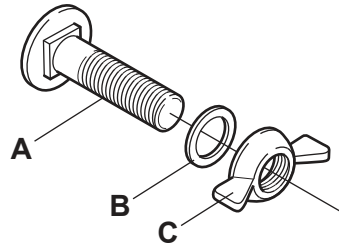

Fig. 1.1
- 1 Fig. 1.1 shows parts of a fastening device.